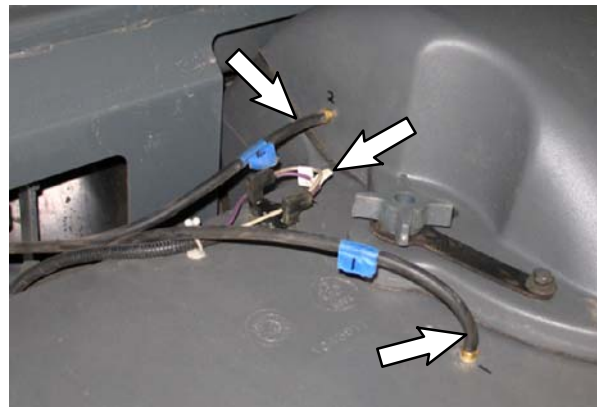

FIG. 1
1. Disconnect the vacuum hoses and the main wire harness from the hopper assembly. (Fig. 1)